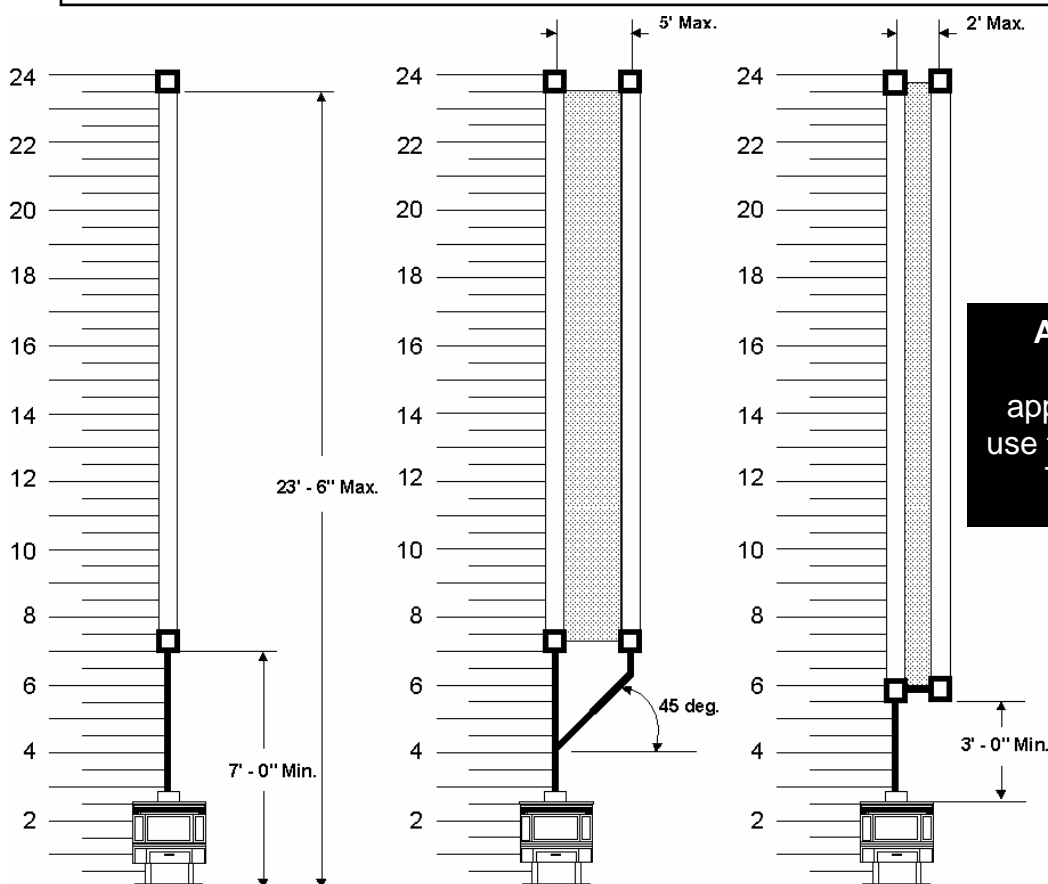

Figure: 7 - Illustration of allowable vertical venting configurations.
1. Insure that the 1-1/4 inch clearances have been maintained to combustibles when passing through ceilings, walls, roofs, enclosures or attic rafters. **Do Not pack air gaps with insulation.** Refer to Fig. 7 for verification of maximum vertical rise of venting system and maximum horizontal offset limitations.